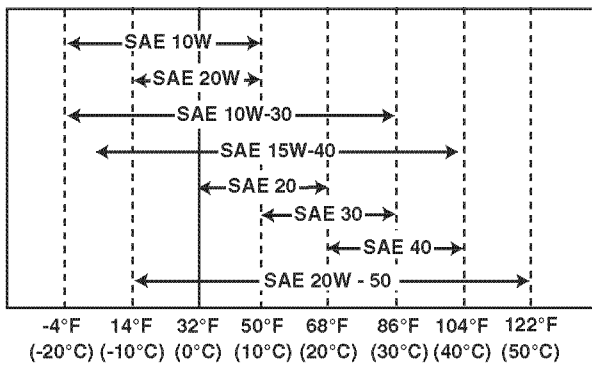

Figure 4-4
- Select the oil viscosity based on the ambient temperature where the engine is being operated. See the SAE Service Grade Viscosity Chart (Figure 4-4).
Select the appropriate engine oil viscosity based on the ambient temperature and use the SAE Service Grade Viscosity Chart in Figure 4-4.